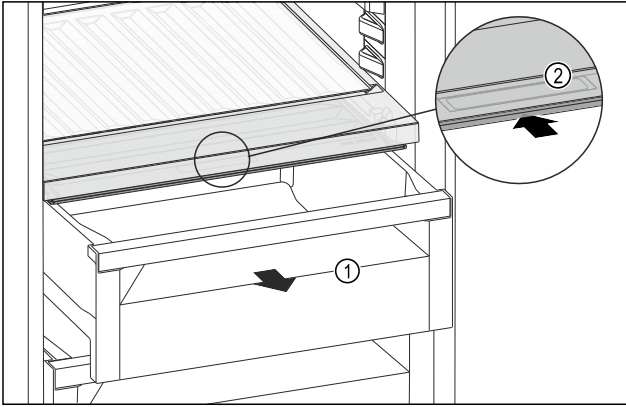

Fig. 101
- ▶ Pull out the drawer Fig. 101 (1).
- ▶ Grasp the recessed grip Fig. 101 (2) on the compartment lid and push the compartment lid backwards at the same time.